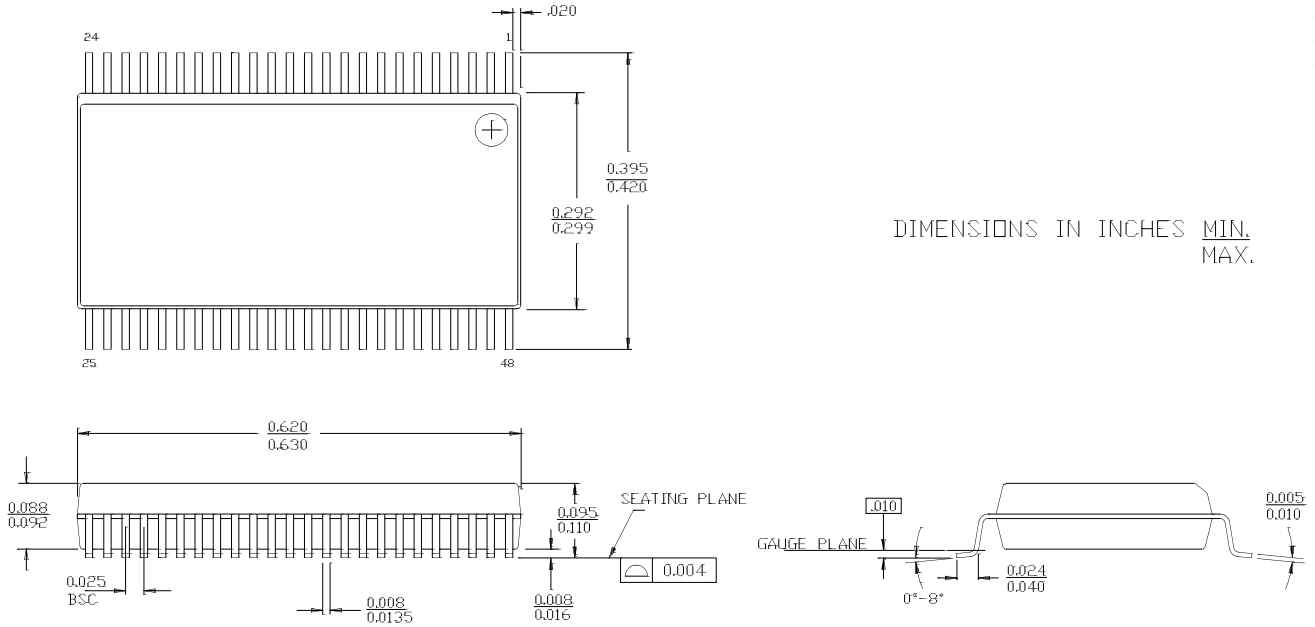

**Figure 1. K7 Open Drain Clock Driver Test Circuit**
6. Refer to Figure 1 for K7 operation clock driver test circuit.